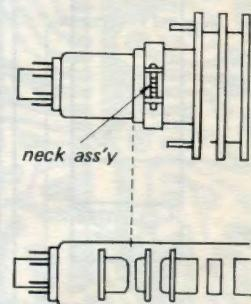
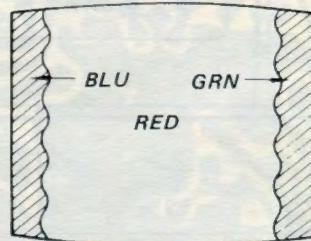

Fig. 3-2.
Fig. 3-3.
4. Position neck ass'y as shown in Fig. 3-2.
5. Disconnect leads **②** and **③** on the C board.
6. Adjust purity control to center vertical red band as shown in Fig. 3-3.